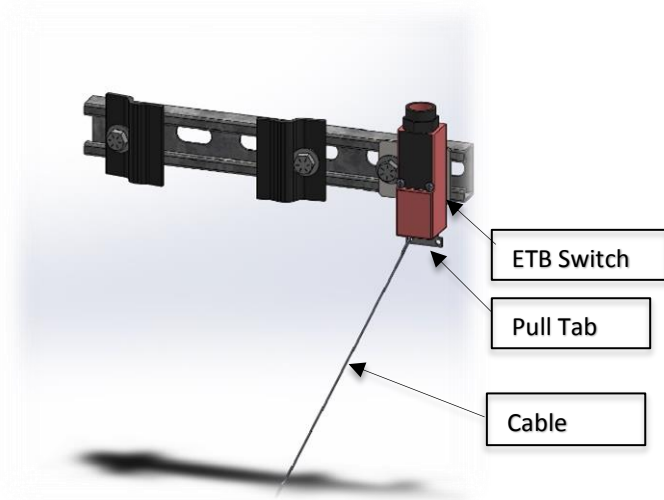

Figure 19: Emergency Tape Break Switch
- Affix a 12" length of Unistrut to the guide rail approximately 20" above the lower tape mounting assembly Unistrut as shown in figure 19.